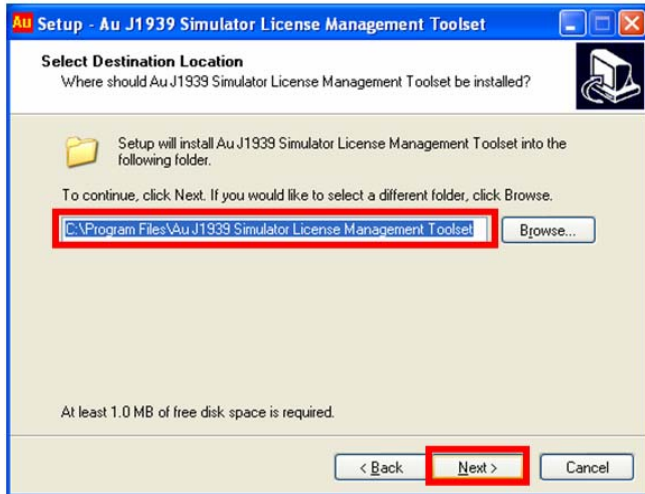

Figure C-4
4. "Select Destination" window shows up, use default: C:\Program Files\ AU J1939 Simulator License Management Toolset", then click "next" (Figure C-4).